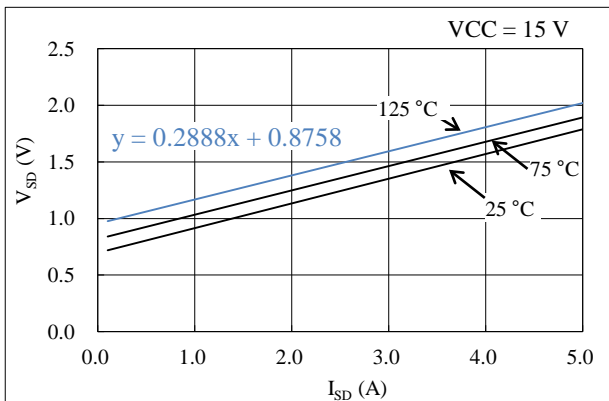

Figure 14-3. Linear Approximate Equation of V_{SD} vs. I_{SD} Curve
- V_{DC} is the main power supply voltage (V), i.e., the VBB pin input voltage, and
Steady-state loss in the body diode of a power MOSFET can be computed by using the V_{SD} vs. I_{SD} curves, listed in Section 15.3.1. As expressed by the curves in Figure 14-3, linear approximations at a range the I_{SD} is actually used are obtained by: V_{SD} = α × I_{SD} + β. The values gained by the above calculation are then applied as parameters in Equation (9), below. Hence, the equation to obtain the body diode steady-state loss, P_{SD}, is: